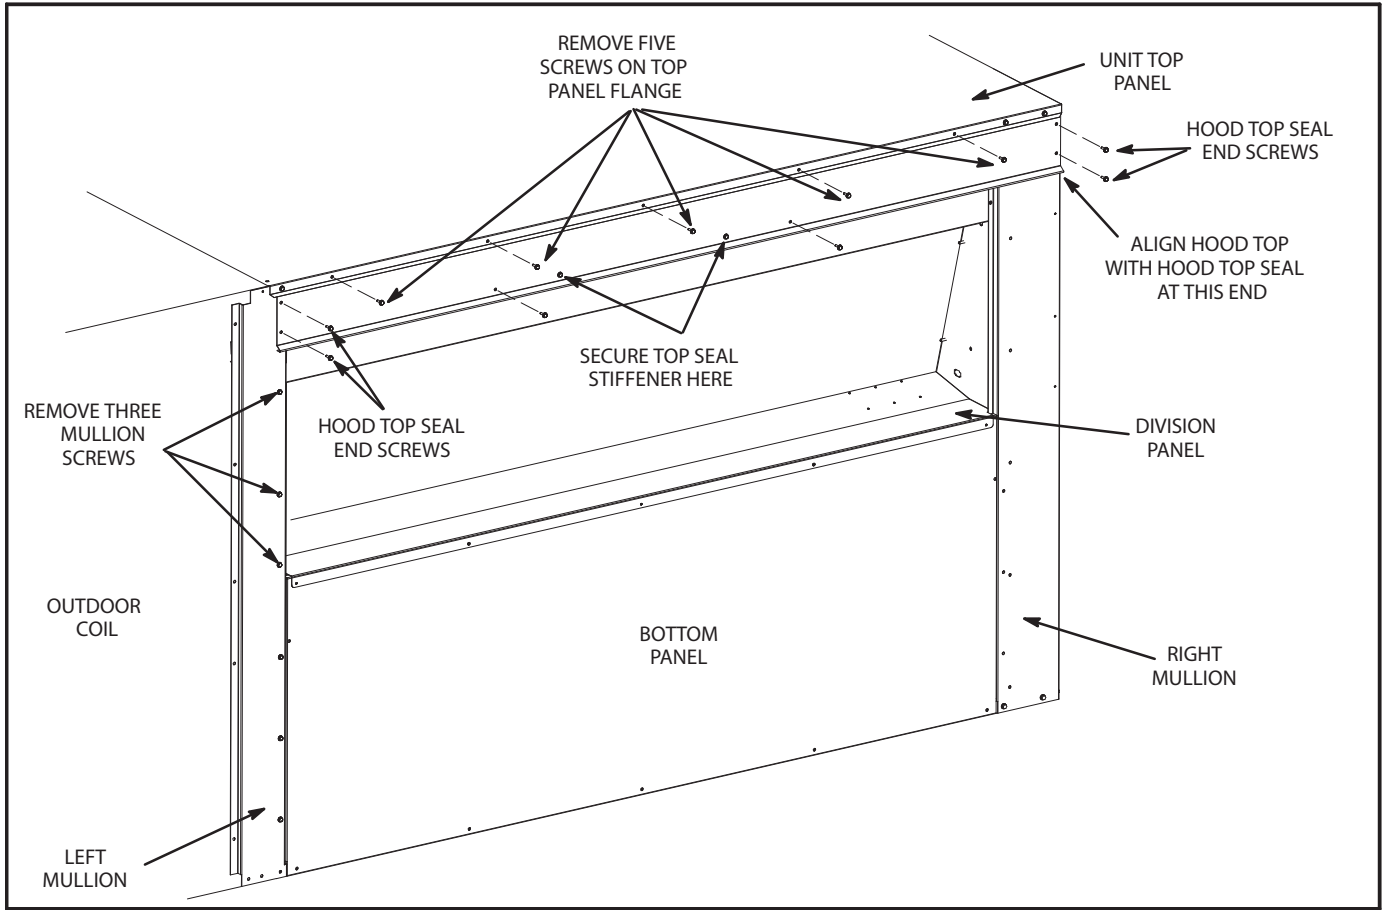

FIGURE 3
The outdoor air hood is packaged separately but attached to the damper assembly crate. Use #10 self drilling screws to install hood unless noted otherwise. Refer to figure 3.
- 2– Secure top seal stiffener to back side of hood top seal. See figures 3.
8- Install hood assembly to side of unit see figure 3.